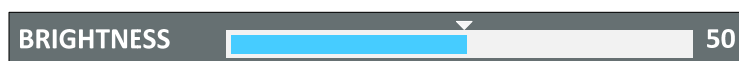

Figure 4.1-8 Adjust Menu List
- **Adjust Menu:** when not displaying the Main menu, press **ENTER** button to display the adjust menu list, as shown in Figure 4.1-8, toggle among these menu items: VOLUME, BRIGHTNESS, CONTRAST, CHROMA.